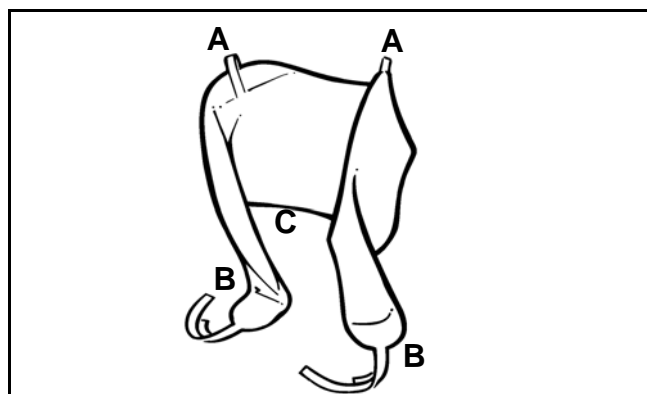
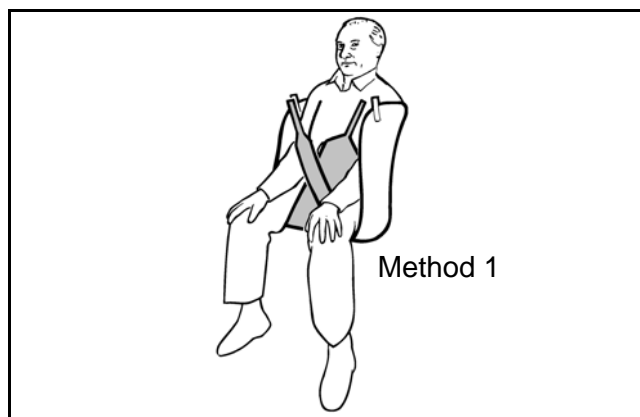
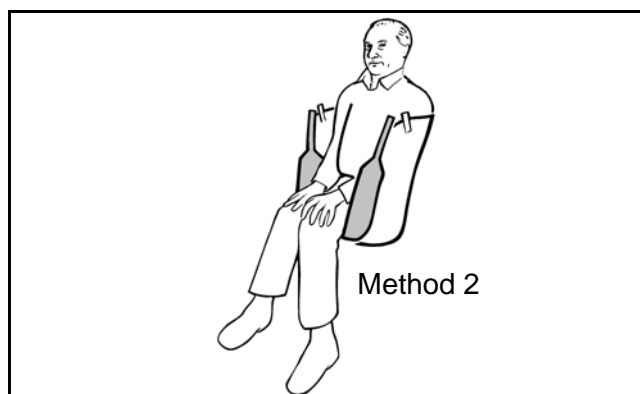
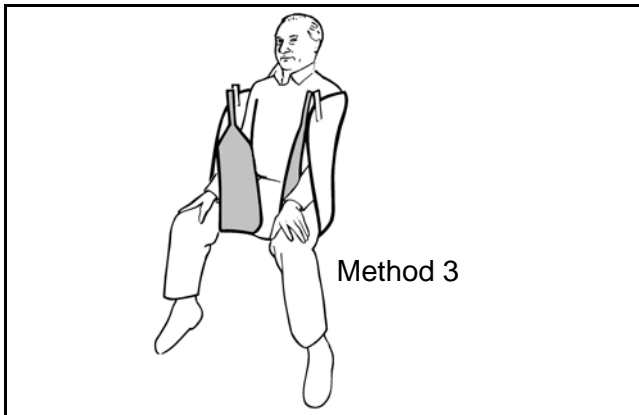

Fig. 11
Fig. 12
Fig. 13
Fig. 14
Once the loop sling has been fitted around the patient, it can be configured in three ways. With each of the three methods described below, it is necessary to first connect each shoulder loop (points A) of the sling to the same side hook on the spreader bar (see Fig. 11).
**Method 1:** With the sling correctly positioned around the patient, slide the left-hand leg section of the sling under the patient's left thigh and the right-hand leg section under the patient's right thigh. Attach each leg loop (see points B in Fig. 11) of the sling to the outer hook on the opposite side of the spreader bar (see Fig. 12).
**Method 2:** With the sling correctly positioned around the patient, pass each leg section of the sling under both of the patient's thighs, then attach each leg loop (see points B in Fig. 11) to the outer hook on the opposite side of the spreader bar (see Fig. 13).
**Method 3:** With the sling correctly positioned around the patient, slide the left-hand leg section of the sling under the patient's left thigh and the right-hand leg section under the patient's right thigh, then attach each leg loop (see points **B** in Fig. 11) to the hook that is on the same side of the spreader bar (see Fig. 14).
If the patient can sit easily, the sling can be positioned the same way as if the patient was seated in a chair: i.e. by easing the patient forward, (if necessary) slide the sling down the patient's back until seam **C** (see Fig. 11) reaches the base of the spine. Take attachment points **B** and pass the leg sections described in one of the three methods for lifting shown above. Ensure that the sling's sections are not twisted underneath the patient.